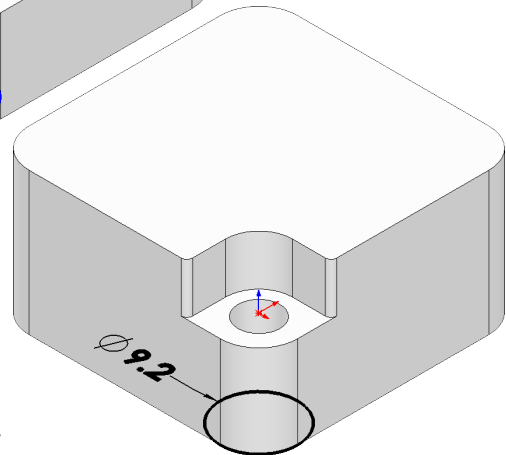

**Fig. 24**
Step 2. Click **Circle**  (S) on the Sketch toolbar.
Step 3. Sketch **circle concentric with Fillet1**, **Fig. 24**. To wake up centerpoint, hover cursor over circular edge.